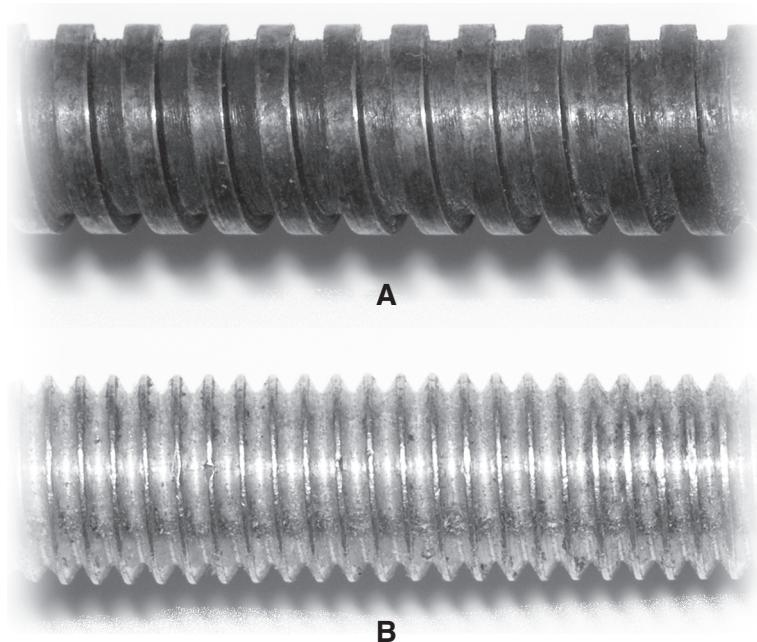

Fig. 11
- (e) Fig. 11 shows two screw threads with the same outside diameter.